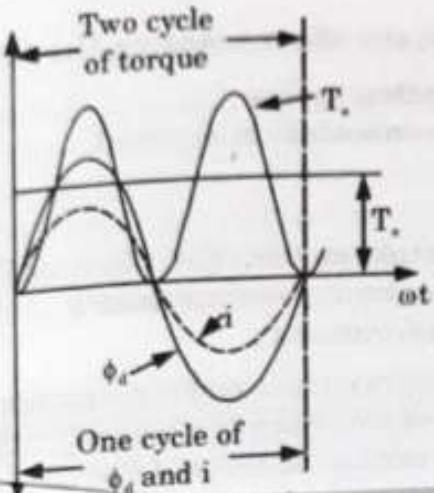

Fig. 5.6.1. Pertaining to the development of torque in DC series motor when fed from AC source.
1. If an alternating voltage is applied to an ordinary DC series motor, then for one half cycle, the field flux ϕ_d and armature flux ϕ_q may be as shown in Fig. 5.6.1(a).
4. As a result of this, both the field and armature fluxes are reversed as shown in Fig. 5.6.1(b) and torque is developed again in the clockwise direction.